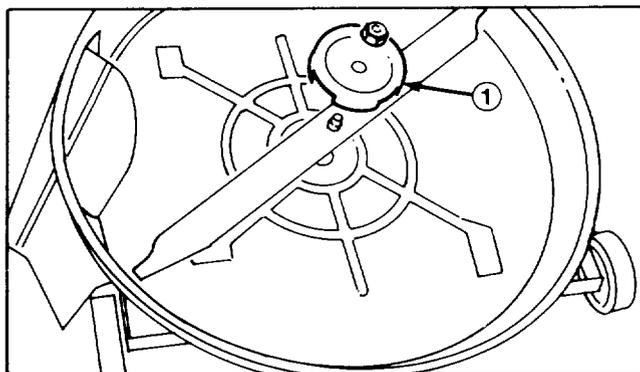

Figure 20
6. Grasp end of blade using a rag or thickly padded glove; then remove lock nut, anti-scalp cup and blade (Fig. 20).
9. In sequence, install blade, anti-scalp cup and lock nut (Fig. 20). Tighten lock nut to 45-60 ft-lb (61-81 N·m).